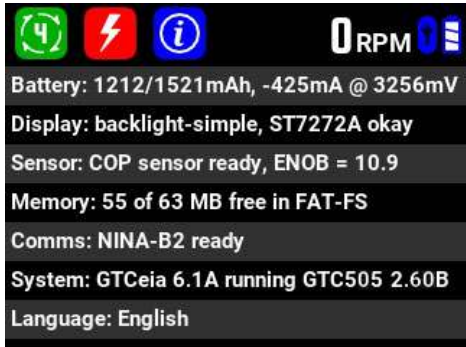

Fig. 13 - System information view and language selection
- 5- Place the COP sensor on the top and center of the ignition module (as shown in the Fig. 13), and observe whether the instrument is able to detect and display the desired measurement.